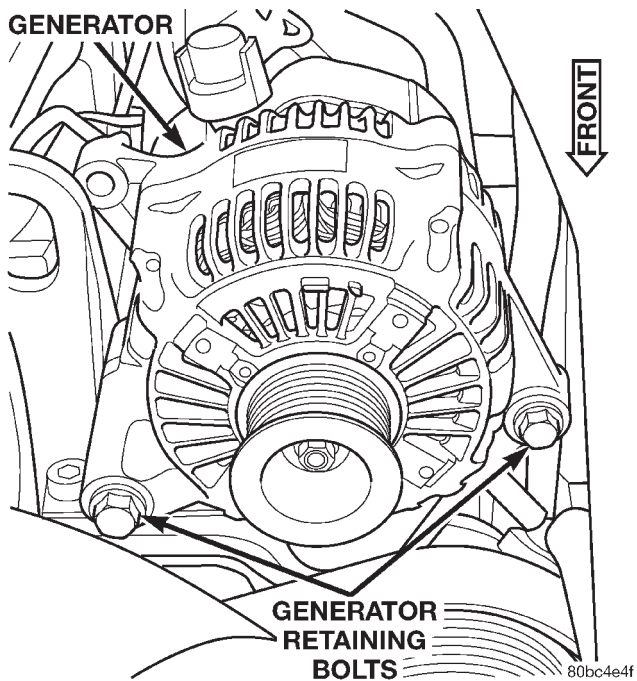

Fig. 3 Generator Retaining Bolts
(5) Remove the generator retaining bolts (Fig. 3) and remove the generator from the vehicle.